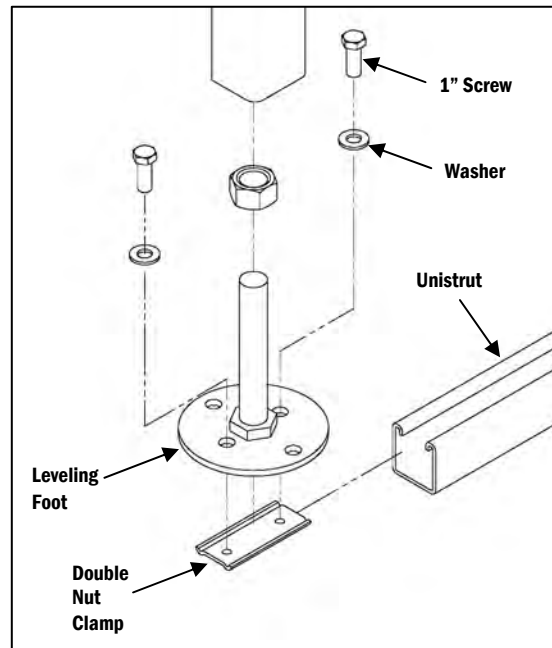

Figure 1
- a. Rotate the feet so the holes 2" apart are in line (**Figure 1**).